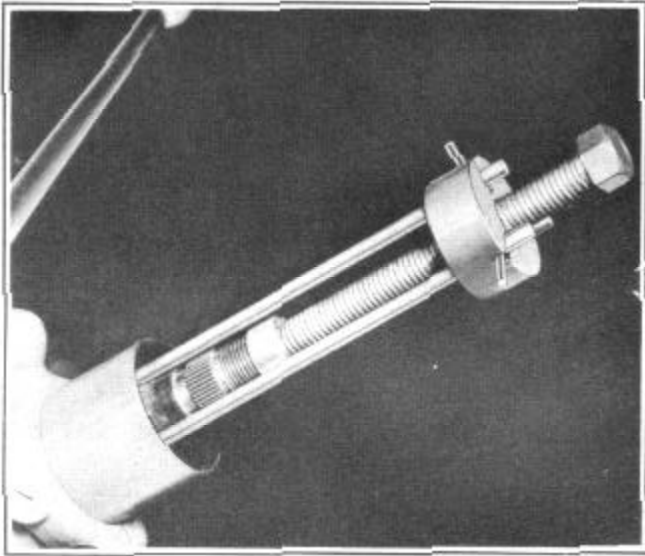

FIGURE 3
3. Engage fingers of Bearing Puller 1-2792 below the bearing and place locating pins in slots in head of puller, Figure 3.